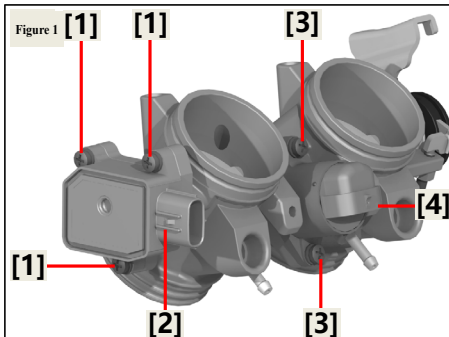

Figure 1
1. Check (Figure 1):
- Remove the tilt sensor connection plug [1] shown in Figure 1
- Remove the throttle-to-solenoid valve connecting hose [1] shown in Figure 1
- Remove the fuel injector connection plug [2] shown in Figure 1
- Disconnect the idle speed stepper motor connection plug [3] shown in Figure 1
- Remove the three-in-one sensor connection plug [4] shown in Figure 1
1. Disassembly: As shown in Figure 1